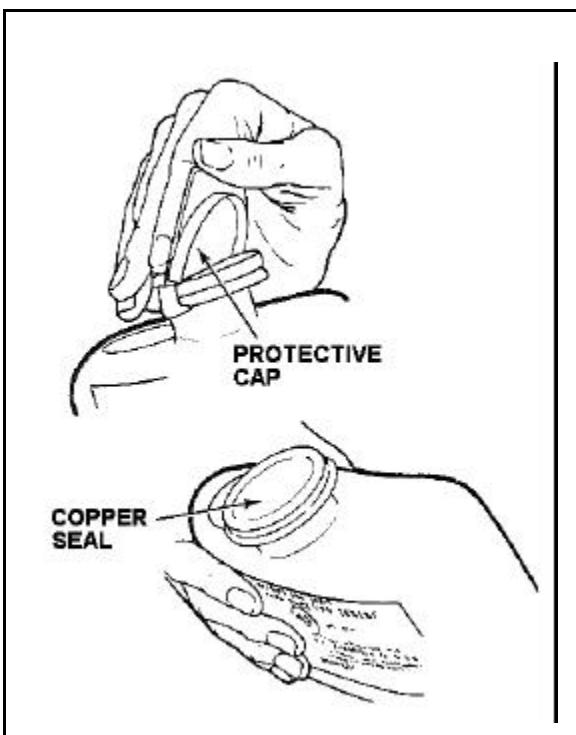

Figure 11-43. Putting on the OBA,
- **Step 5.** Remove the protective cap from the top to expose a thin copper seal (Figure 11-43, page 11-59).